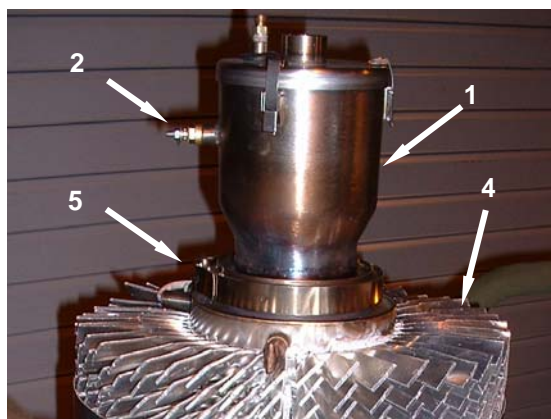

Figure 15. Install the Thermoelectric Generator – Install Burner.
8. Install the burner assembly (**Figure 15, Item 1**) in position on the TEG flange taking care to align the glow plug (**Figure 15, Item 2**) on the burner assembly in the installed 12 o'clock position.
9. Install new graphite ribbon tape (**Figure 15, Item 3**) around the burner assembly (**Figure 15, Item 1**) and TEG (**Figure 15, Item 4**) flanges. Be sure to overlap the tape two to three inches. Roll tape over edges of both flanges to ensure a good seal.
10. Install flange clamp (**Figure 15, Item 5**) over burner assembly (**Figure 15, Item 1**) and TEG (**Figure 15, Item 4**) flanges taking care to position the top of the clamp at the installed 12 o'clock position. Do not rotate clamp after installing new graphite ribbon tape. Tighten the flange clamp securely.